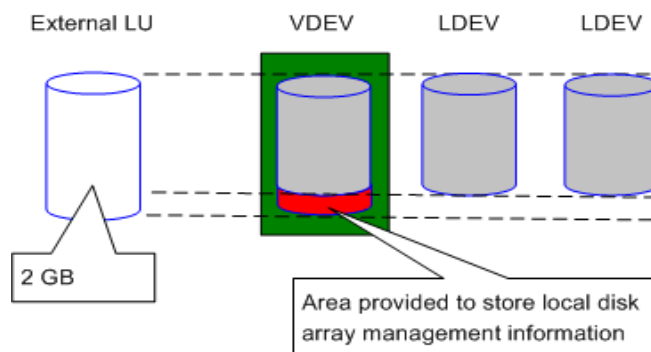

Figure 361: External LU capacity is smaller than the basic capacity of the specified emulation type
- Figure 361 shows an example where the original capacity of the external LU is smaller than the basic capacity of the XP12000 emulation type. In this example, since the resulting space is insufficient to create an XP12000 Open-3 LDEV, you can designate that it become either an XP12000 Open-V or an “Open-3 CVS” LDEV.